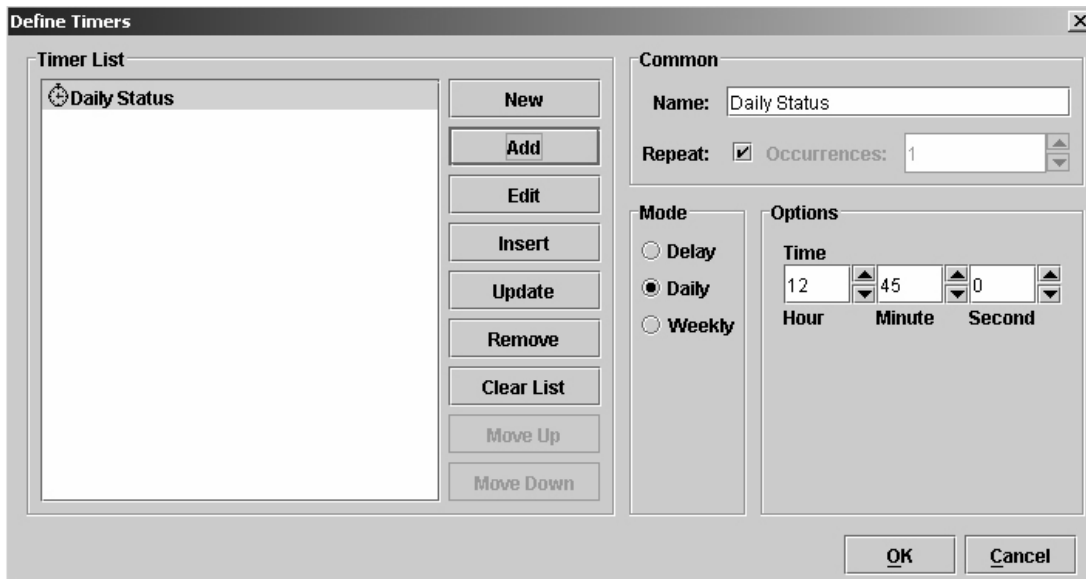

Figure 43. Setting a Daily Timer
6. Click **Add**. The Daily Status timer is added to the Timer List. See Figure 43.